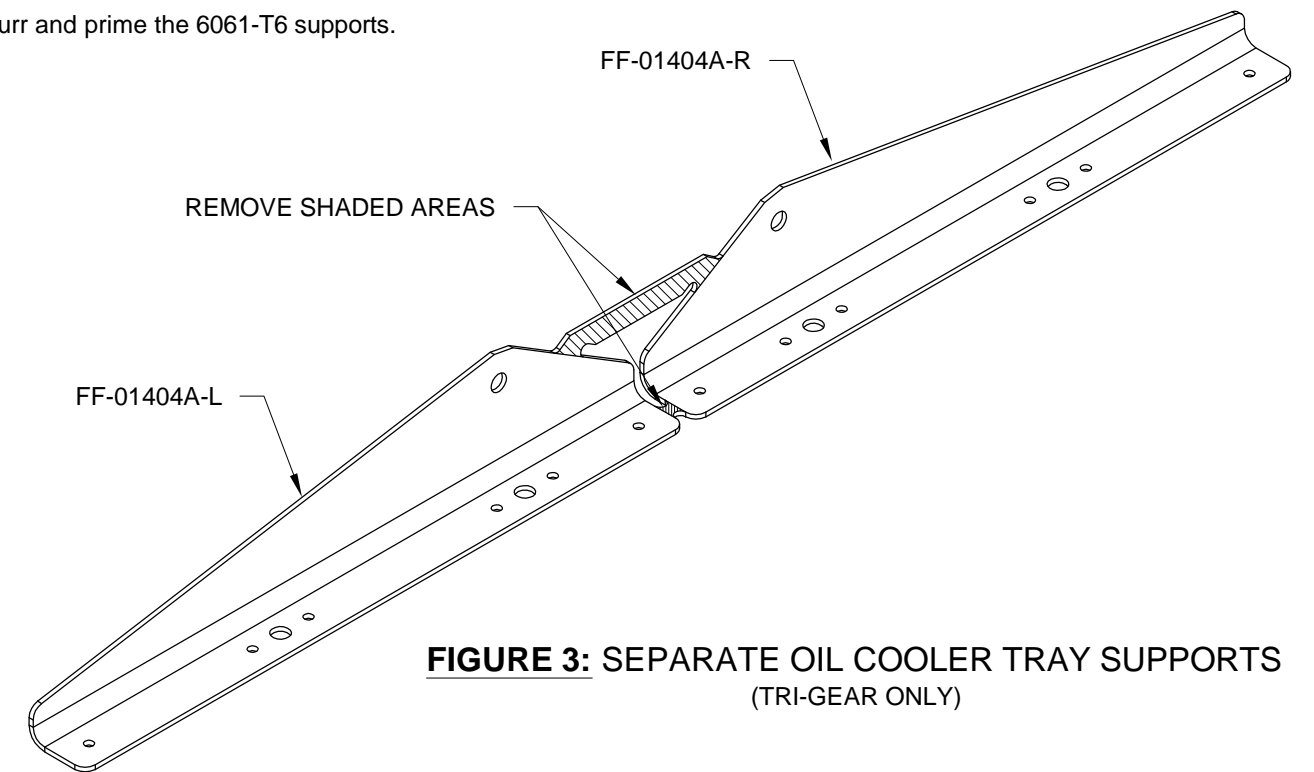

FIGURE 3: SEPARATE OIL COOLER TRAY SUPPORTS
Step 3: (Tri-Gear) Separate the FF-01404A-L & -R Oil Cooler Tray Supports. See Figure 3.